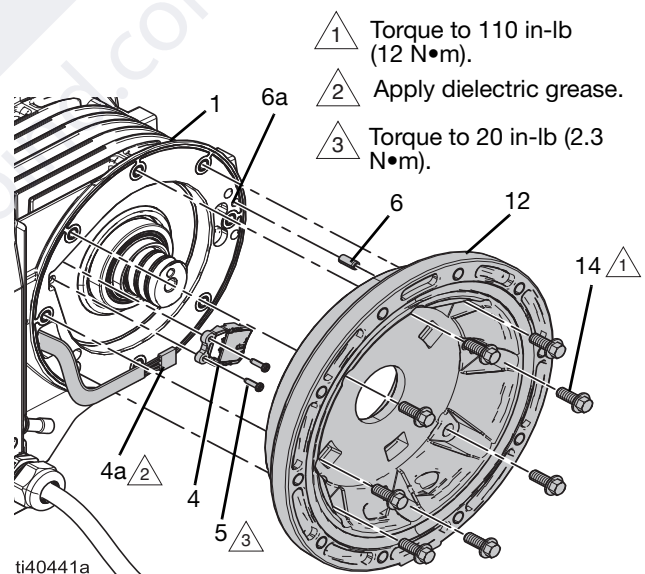
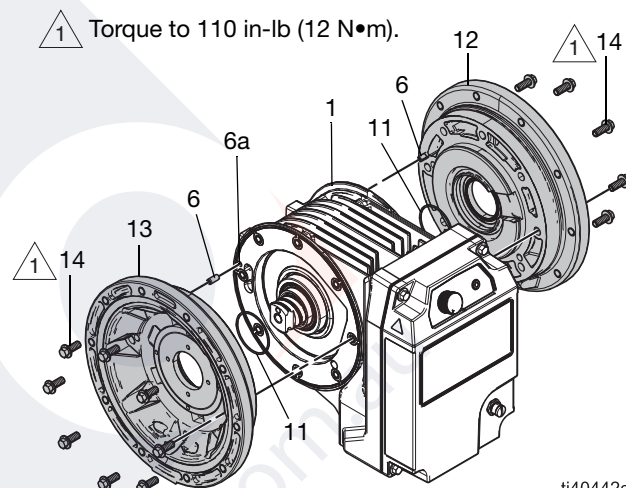

FIG. 12: Motor Sensor
FIG. 13: Center Section, Load-side
See FIG. 12.
See FIG. 12 and FIG. 13.
2. Carefully install the sensor-side stator cap (12):
- a. Install the seal (11) in the stator cap (12).
- b. Align the pin (6) in the stator cap (12) with the pin hole (6a) on the stator housing (1) and gently insert the stator cap (12). Ensure the stator cap is properly set in place. See FIG. 12.
- c. Install the fasteners (14) into the sensor-side stator cap (12). Torque to 110 in-lb (12 N•m). See **Torque Instructions**, page 35.
3. Install the load-side stator cap (13):
- a. Install the seal (11) in the stator cap (13).
- b. Align the pin (6) in the stator cap (13) with the pin hole (6a) on the stator housing (1) and gently insert the stator cap (13). Ensure the stator cap is properly set in place. See FIG. 13.
- c. Install the fasteners (14) into the stator cap (13). Torque to 110 in-lb (12N•m). See **Torque Instructions**, page 35.
See FIG. 12 and FIG. 14.